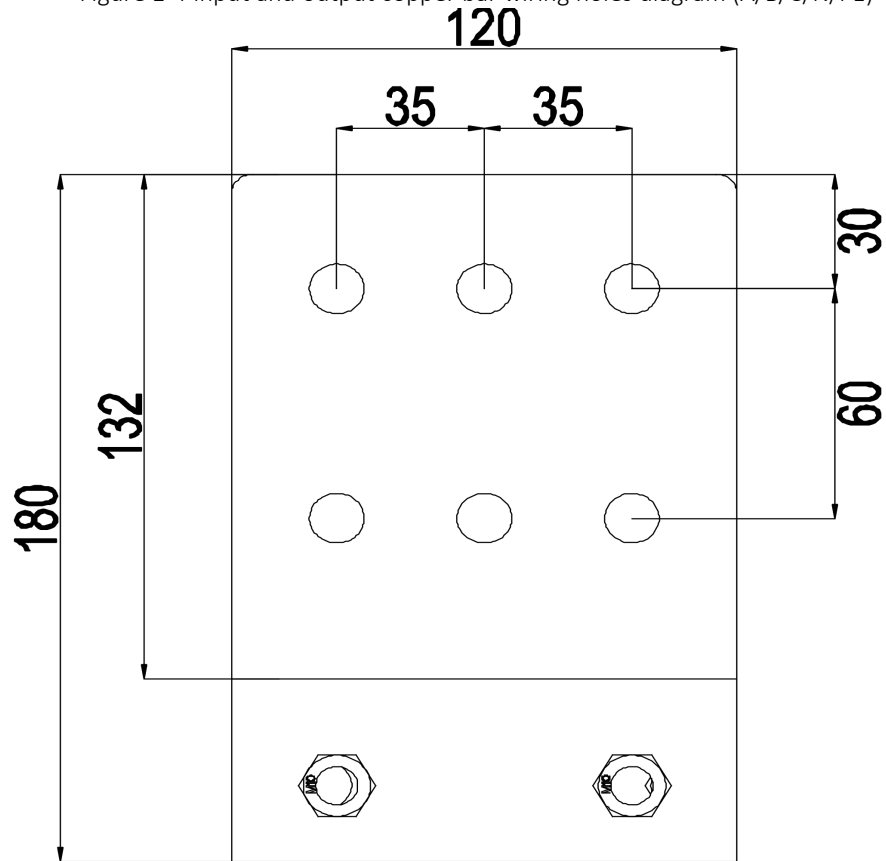

Figure 1-5 Battery copper bar wiring holes diagram (BAT+/BAT-)
Step 2 Remove the top protective cover to reveal the input and output terminals, battery terminals and grounding terminals. The wiring terminal layout is shown in Fig.1-5;